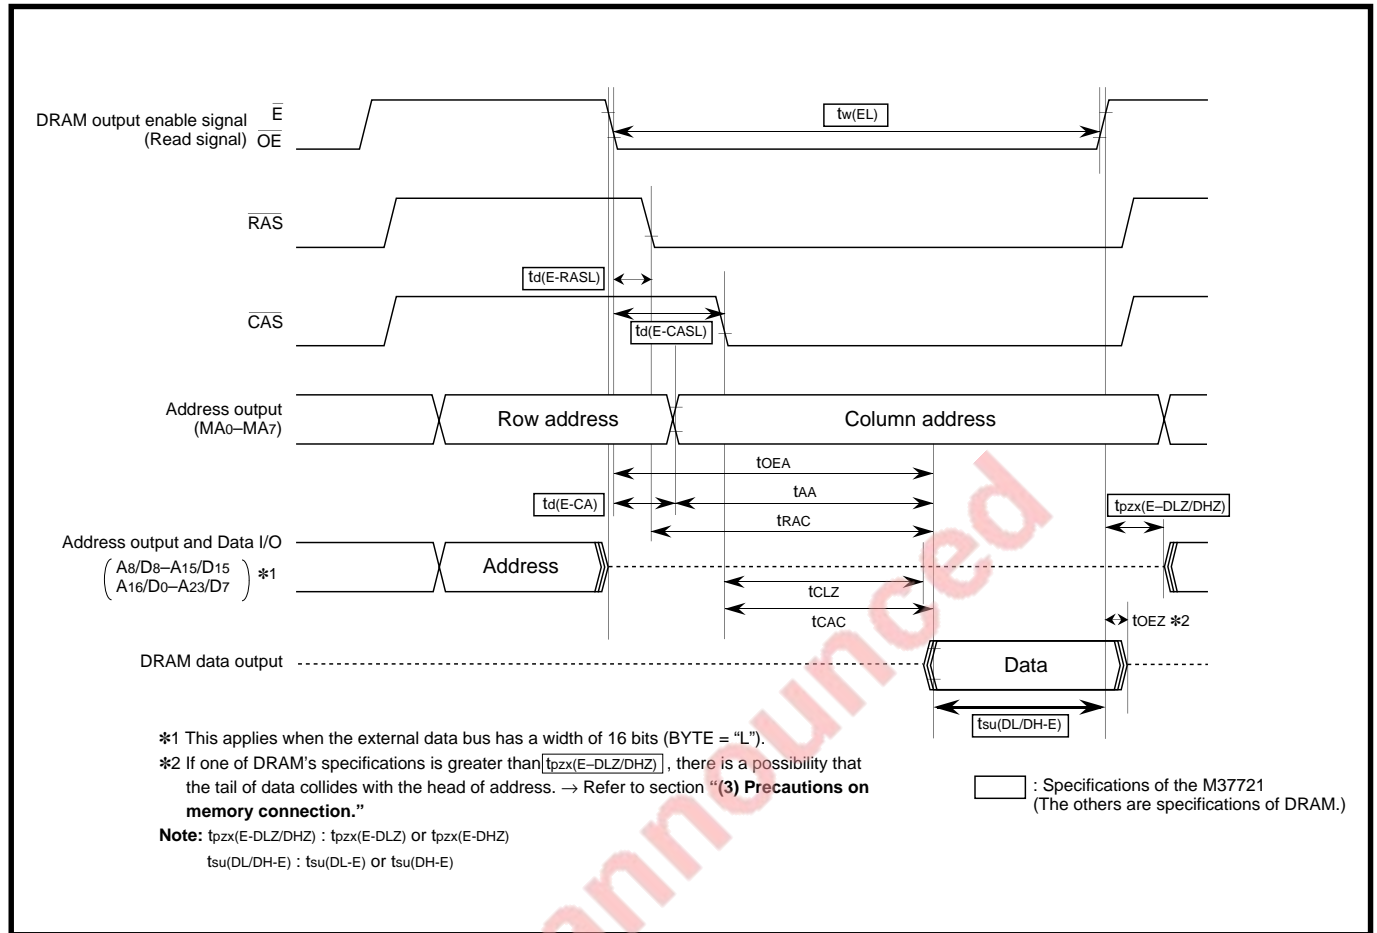

Fig. 16.1.3 Timing for reading data from DRAM
Table 16.1.3 lists the calculation formula and value for each parameter in Figure 16.1.3. Figure 16.1.4 shows the relationship between  $t_{CAC}$ ,  $t_{RAC}$ ,  $t_{AA}$  and  $f(X_{IN})$ .
**Table 16.1.3** Calculation formula and Value for each parameter in Figure 16.1.3 (unit : ns)